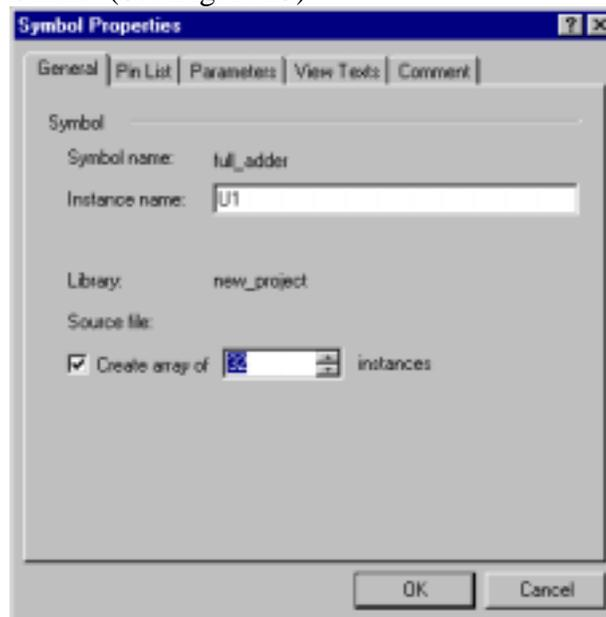

Figure 13
4. Under the heading “Source file”, select the “Create an array of (#) instances”, and enter 32 in this field. (See Figure 13)